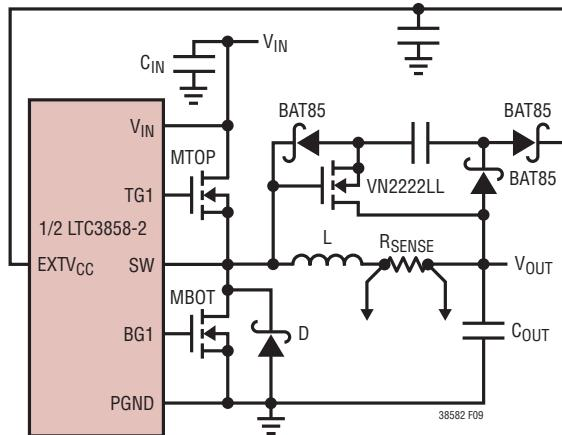

Figure 9. Capacitive Charge Pump for EXTVcc
4. EXTV_{CC} Connected to an Output-Derived Boost Network. For 3.3V and other low voltage regulators, efficiency gains can still be realized by connecting EXTV_{CC} to an output-derived voltage that has been boosted to greater than 4.7V. This can be done with the capacitive charge pump shown in Figure 9. Ensure that EXTV_{CC} $<$ V_{IN}.